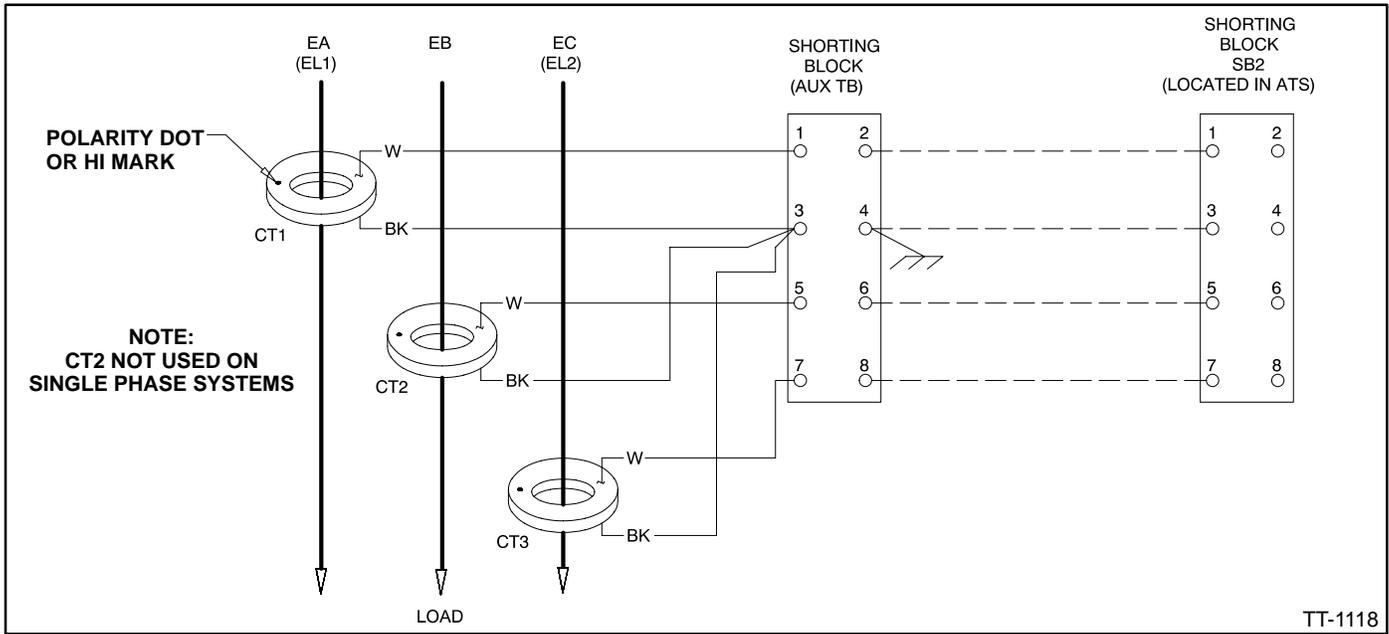

Figure 1. Current Transformer Installation
4. Pass the power cables through the current transformer openings as shown in Figure 1.